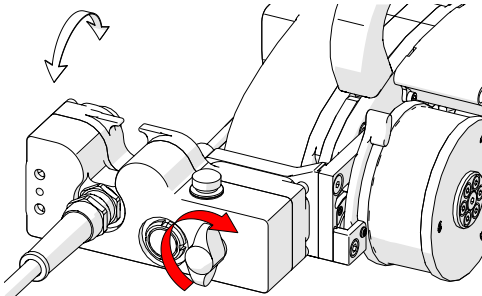

Fig. 103 - Tighten knob
6. Fasten the umbilical to the crawler's umbilical mount by tightening the black wing knob (*Fig. 103*).